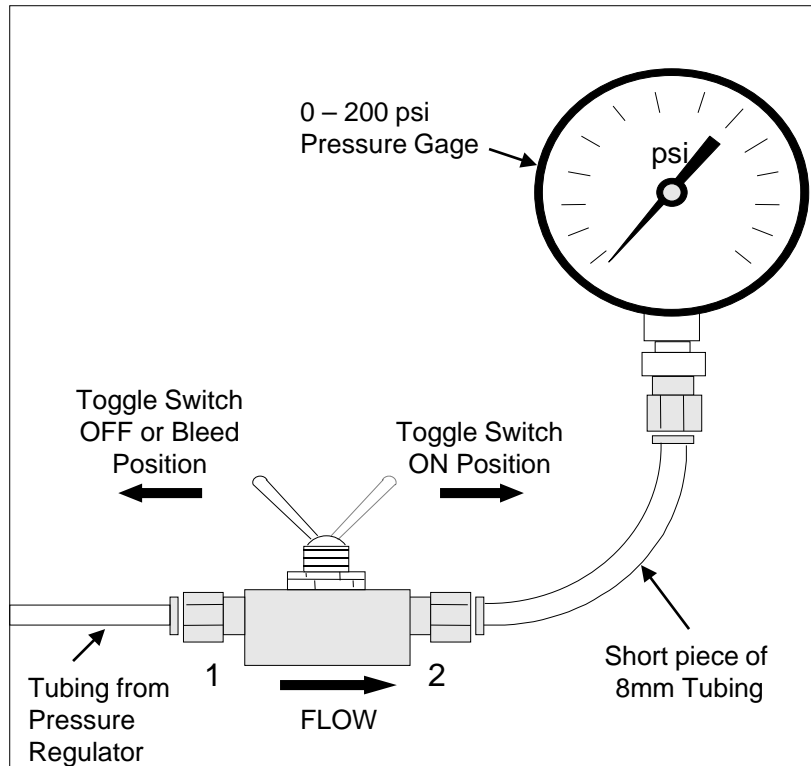

Figure 5
7.2 Push-fit Installer-provided length of 8mm tubing between 8mm Tubing Adapter on Pressure Regulator and #1 Inlet coupling on Bypass Switch. **See Fig. 5.**
7.3 Push-fit a short piece (6" - 12" length suggested) of Installer-provided 8mm tubing between #2 Outlet coupling on Bypass Switch and 0-200 psi Hand-Held Pressure Gage. **See Fig. 5.**